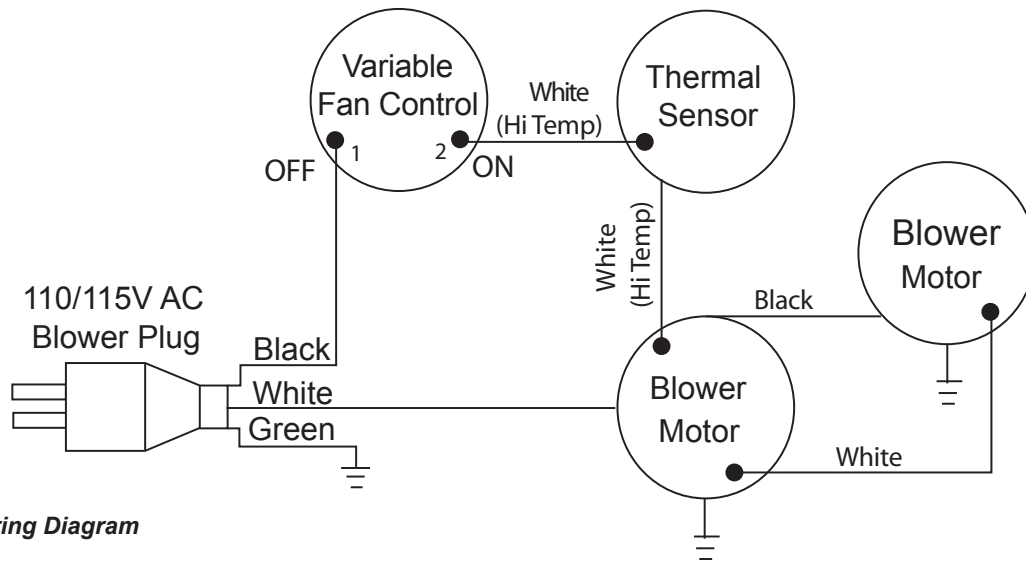

Figure 55 -
13. Connect wiring according to the wiring diagram *Figure 55*.